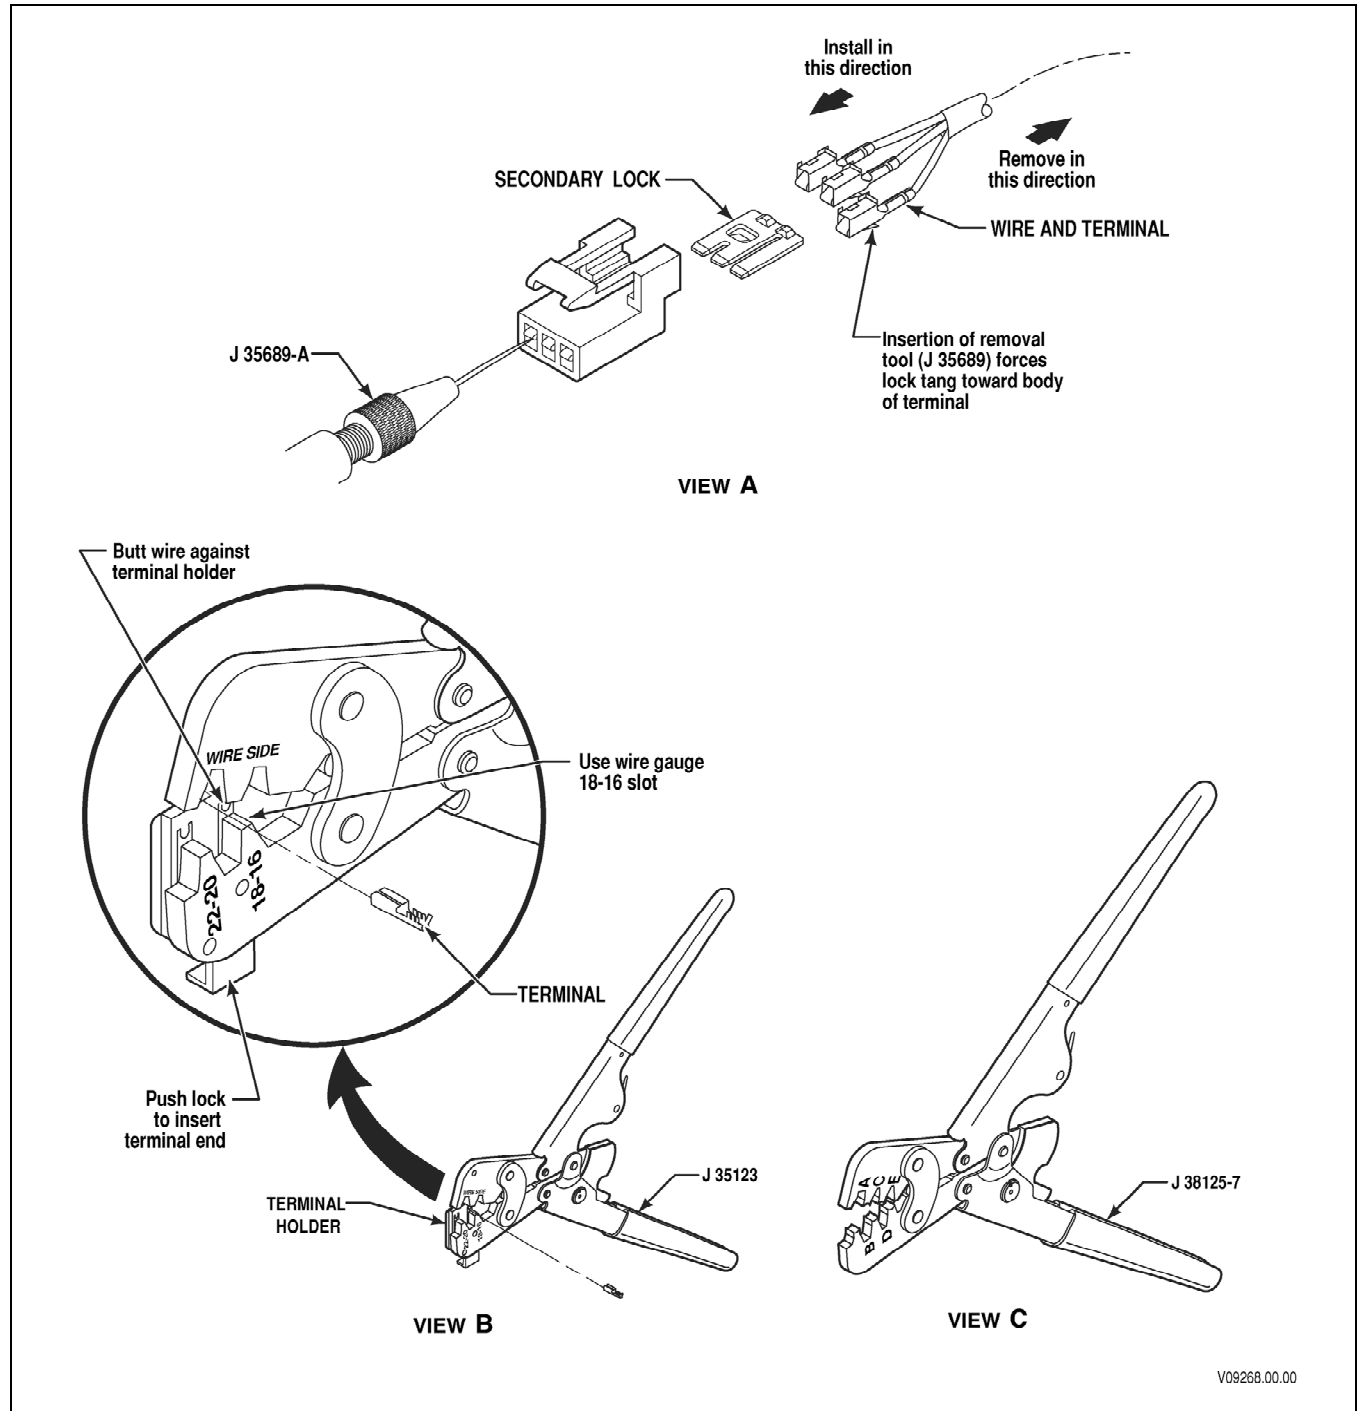

Figure G-13. Delphi-Packard Metri-Pack 150 Series Connectors Push-To-Seat (OLS)
2. Insert needle end of terminal remover J-35689-A into the small notch between the connector and the terminal to be removed (Figure G-13, View A). Push the lock tang toward the terminal.
2. Place core crimp portion of terminal on bed of anvil “E” and squeeze crimper enough to keep terminal from dropping (Figure G-13, View C).
1. Insert remover tool in front side of connector to release locktab and push terminal out front of connector. Pull the terminal and wire out the front of the connector to complete Steps (3) through (7).
2. Push open the terminal holder on the crimper tool J-35123 and insert a terminal into the opening marked 18-16 (Figure G-13, View B) so that the crimp ends point up. Release the terminal holder.